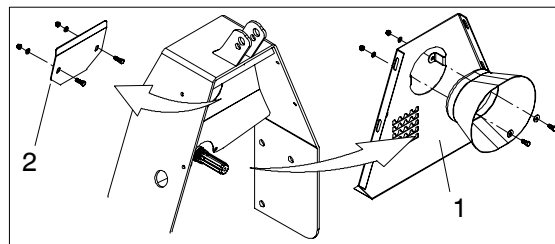

Fig 10. Removing the covers.
1. Remove the PTO guard and install to the cover plate (1). Remove the mounting bolts of the small cover plate and remove the cover plate (2) from the mounting frame. These components will not be needed later. See Figure 10.